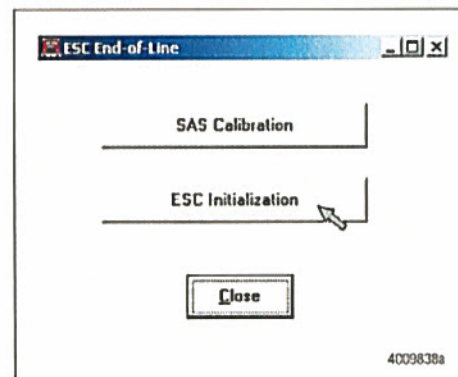

Figure 8
3. Click on "ESC Initialization". Figure 8.